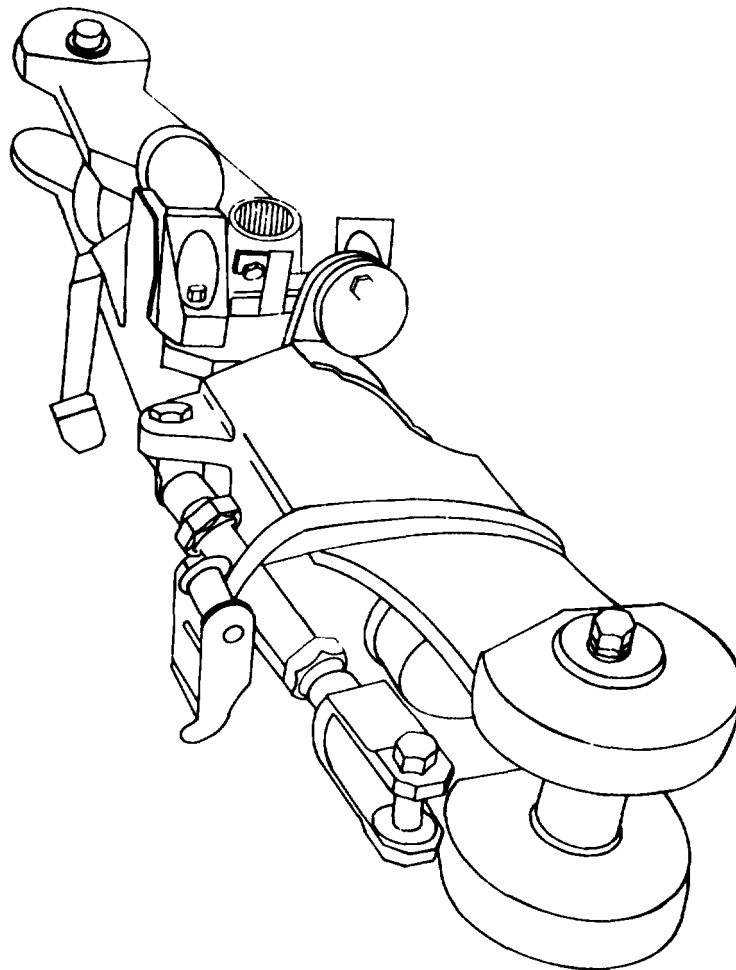

Figure 2-4. Rotor Hub Securement.
(1) Preserve rotor hub in accordance with paragraph 7-12.
(2) If main rotor hub is removed, coat splines with corrosion preventive (C-10). Wrap removed hub in cushioning (C-12) and secure in helicopter cargo compartment with nylon straps (Figure 2-4).